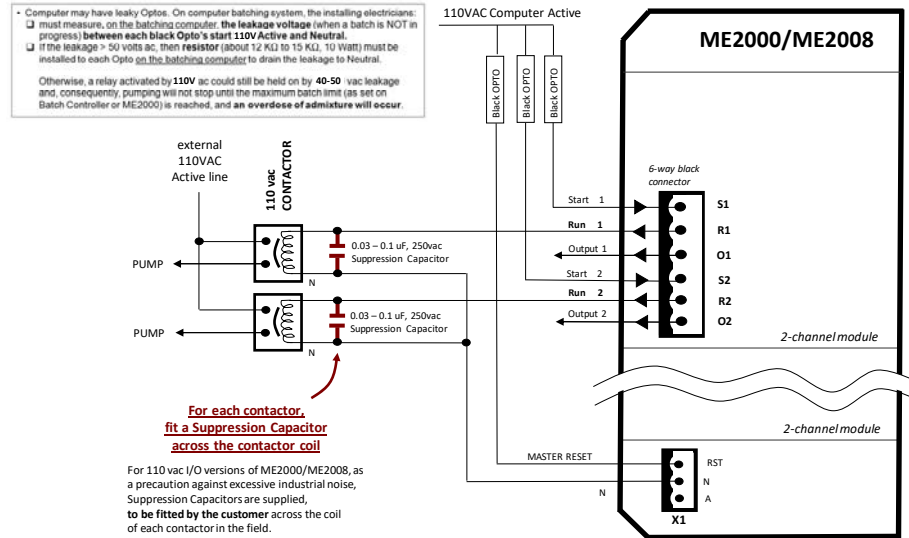

Figure 3. Fitting Suppression Capacitors to prevent electrical noise, and Resistors to prevent voltage leakage.
- Fitting a 0.03 to 0.1µF 250vac capacitor on the pump contactor coil (between pump drive of ME2008 and Neutral), helps eliminate any voltage spikes (see Figure 3 on Page 13).
Computer starts have Black Optos which are usually solid state optos. When computer starts, the Optos stay on ("240vac energized") for the duration of the batch cycle and turn off at completion of the batch cycle. When the optos turn off, sometimes a higher than normal residual leakage voltage is maintained e.g. 90 vac (so installers/maintainers must measure, on the batching computer, the leakage voltage, when a batch is NOT in progress, between each black Opto's start 240v Active and Neutral). This voltage is sometimes enough to keep ON relays that drive contactors or solenoid coils. If this occurs, fit a 12kΩ 5W resistor between the Start Drive and Neutral connections (see Figure 3 on Page 13).
| | 2 | Sometimes spiking contactor coils in close proximity to ME2008 can cause interference. Fitting 0.01 to 0.03µF 250 vac capacitors on the pump contactor coils (between Neutral and the R1 pin of the DCM black X1 plug) helps eliminate spikes (see Figure 3 on Page 13). |